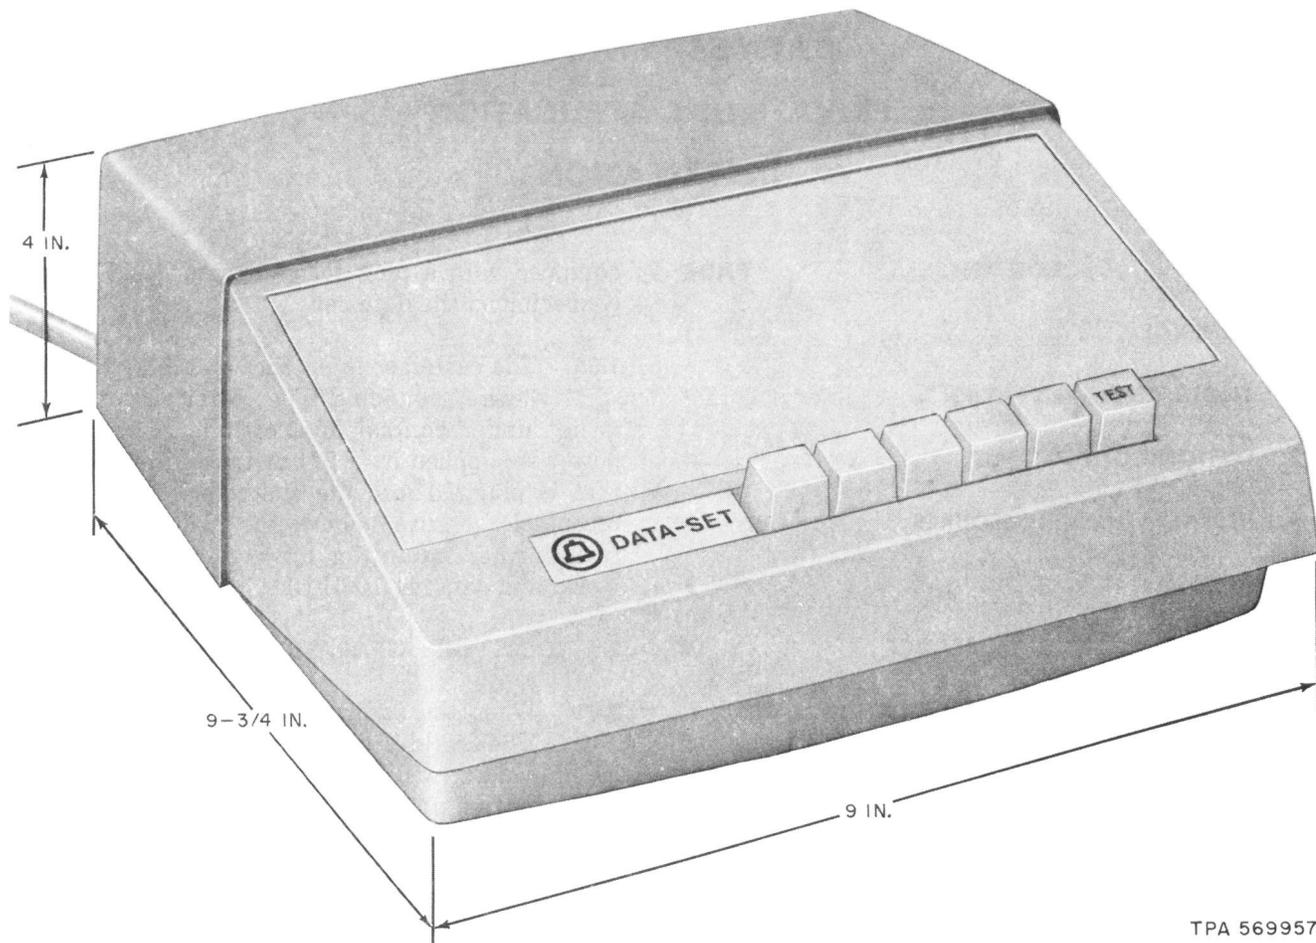

Fig. 1—Data Set 109H-L1
1.01 This practice provides information on the installation and connection procedures required when providing service in a private line system using the data set 109H-type (Fig. 1).